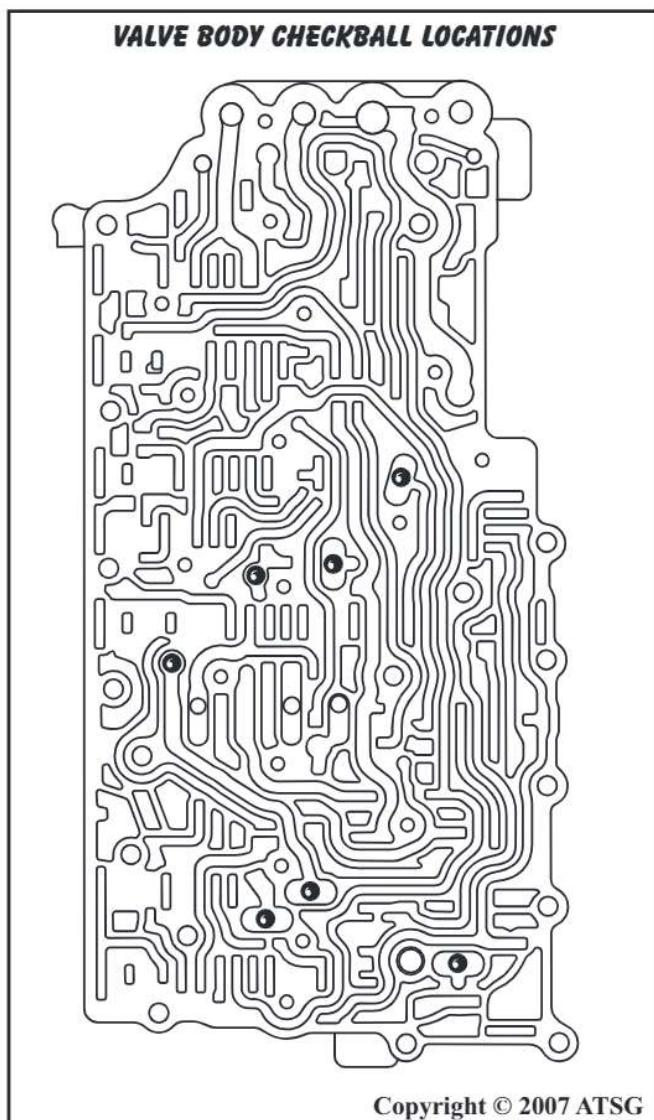

Figure 142
18. Install the seven (7) checkballs in their proper locations in the upper valve body, as shown in Figure 142.